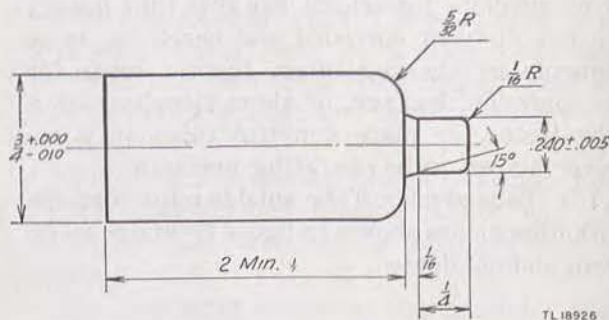

Figure 30. Tool for shaping tube shields, Radio Receiver and Transmitter BC-611-(\*).
**i. TUBE SHIELDS.** Small dents in tube shields may be removed by forcing shield over a steel rod of the shape shown in figure 30 and tapping shield lightly with a hammer.